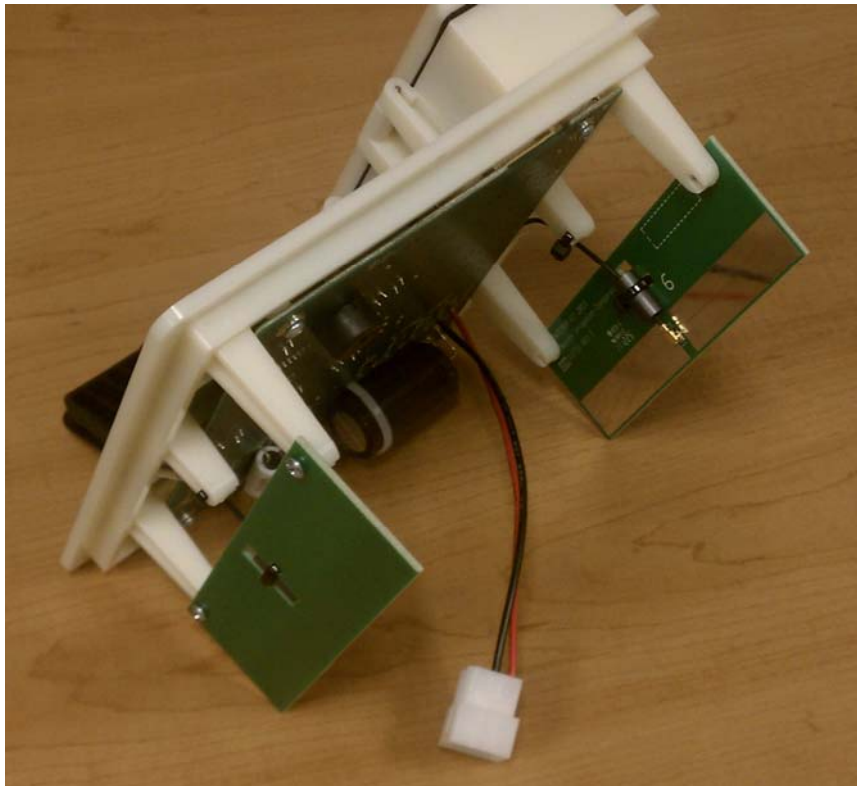

Figure 1
- e) Mount VRS (TWIG) PCB and antennas on plastic subassembly frame as shown in figure1 below.